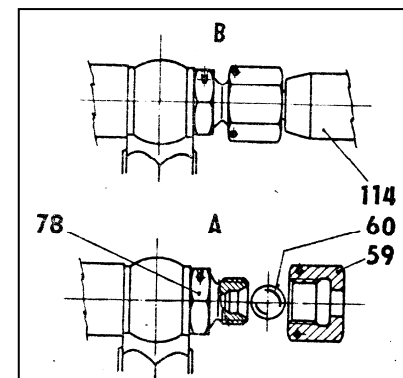

FIGURE 12-26
B. Relief valve adjustment check (figure 12-26)